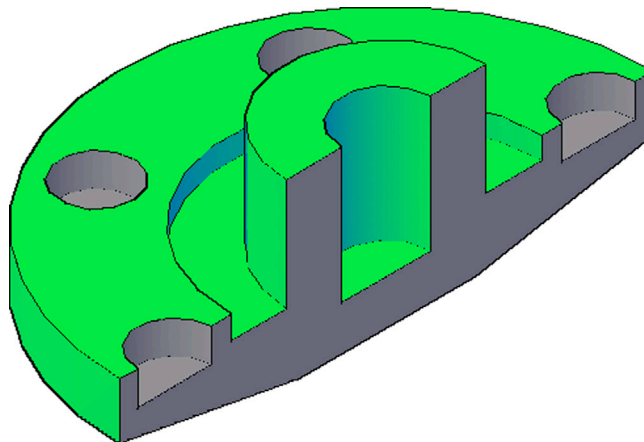

FIGURE 27.4 Completed slice.
Step 5. Here AutoCAD is asking which side of the slice you want to keep. Pick the one at the top of the screen by clicking on it, or in its general area, and you will see one half of the part disappear (Fig. 27.4).